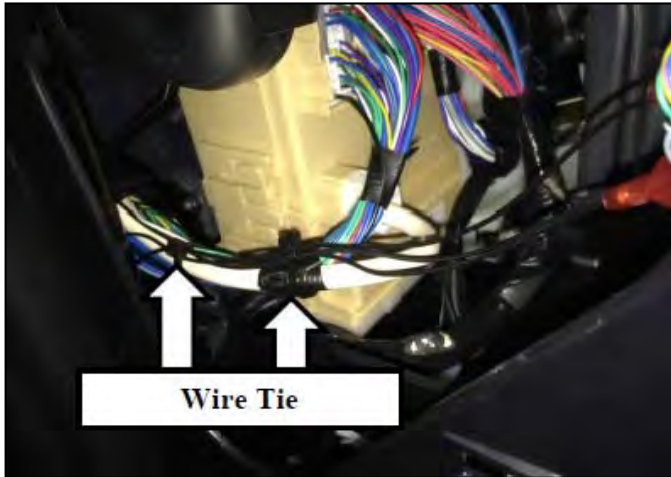

Figure 20
20. Bundle up any excess wire. Using wire ties, secure the mirror main power harness wires to the vehicle harness as shown in figure 20.